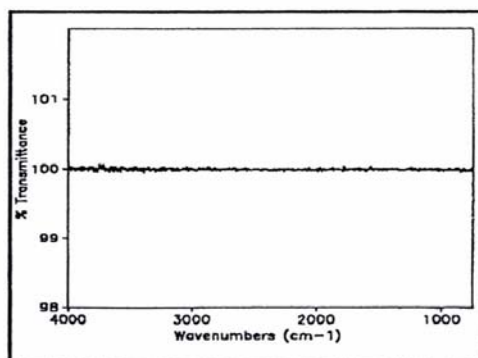

Fig. 5 Standard 100% line in transmission mode.
13. The ratio of these two spectra should give a flat line near 100% transmission. Spectrum should be free of periodic spikes (see Fig. 5).